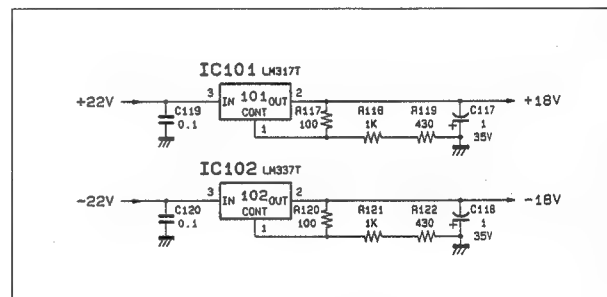

Fig. 8-4-10.  $\pm 18$  V 3-terminal Regulator (PS-138 Board)
(1) and (2) are connected to the input side of the +12 V series regulator, and (3) is connected to the input side of the -12 V series regulator.
(4) and (5) use 3-terminal regulators provided with a CONT terminal, and are supplied with +22 V and -22 V, as shown in Fig. 8-4-10.. The output voltage can be varied by changing R117 to R119 and R120 to R122 which are connected to the respective CONT terminals.
(6) is on the RE-32 board. It generates +5 V from +12 V. It is used mainly as a power supply for the logic ICs.